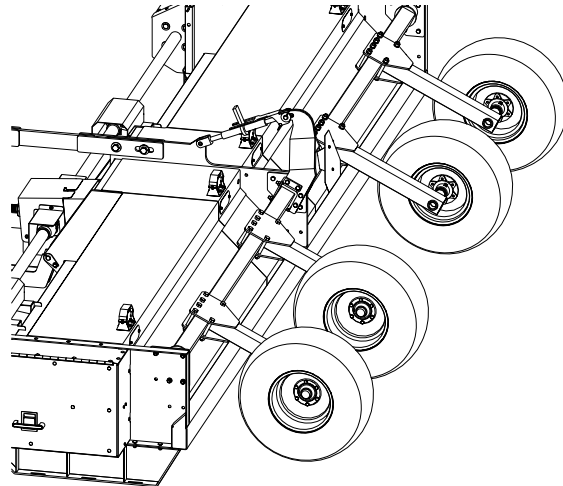

Figure 36. Positioning Wheel Assembly
2. Turn the turnbuckle to achieve the desired ratchet length (see Figure 36).